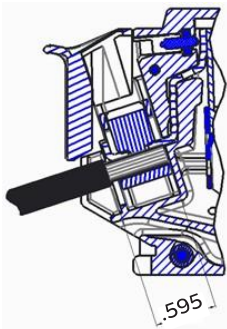

Figure 4. Stripped wire installed.
6. Wire the circuit breaker to be used as main. **Figure 4**.
After stripping the wires to the required length, the wires can be installed as shown in **Figure 4**. The service barrier must be correctly installed to maintain electrical isolation from accidental contact. Torque the wires according to the torque specification on the breaker.